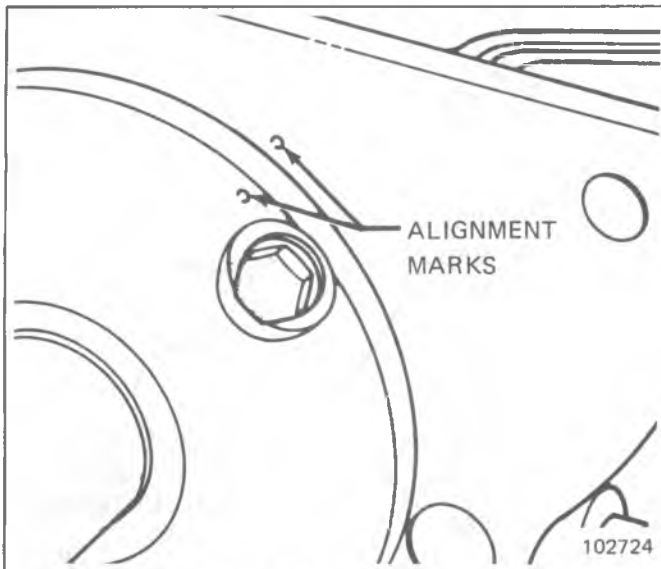

Fig. 7B2-7--Front Bearing Retainer
6. Remove fill plug from right side of case (Fig. 7B2-4). Working through the plug opening drive out countergear roll pin with a 3/16 inch pin punch that has been chamfered slightly.
7. Insert dummy shaft tool J-25232 into bore at front of case, tap lightly on tool to push countershaft out rear of case (Fig. 7B2-6). With countershaft removed, allow countergear to lie at bottom of case.